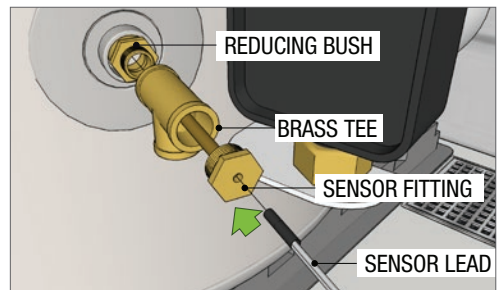

Fig 4
3. Fit the brass plug of the tank sensor fitting & the sensor lead into the brass tee on the solar cold flow tank connector and seal and secure the sensor lead in place (Fig 4)